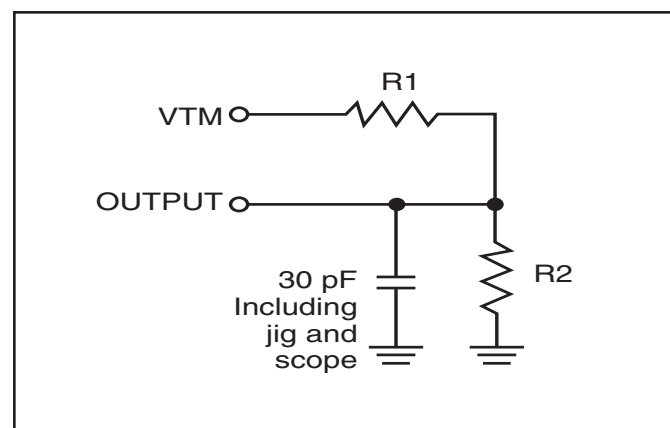

Figure 1
1. Test conditions assume signal transition times of 5 ns or less, timing reference levels of 0.9V/1.5V, input pulse levels of 0.4 to  $V_{DD}-0.2V/0.4V$  to  $V_{DD}-0.3V$  and output loading specified in Figure 1.
1. Test conditions assume signal transition times of 5 ns or less, timing reference levels of 0.9V/1.5V, input pulse levels of 0.4 to VDD-0.2V/0.4V to VDD-0.3V and output loading specified in Figure 1.